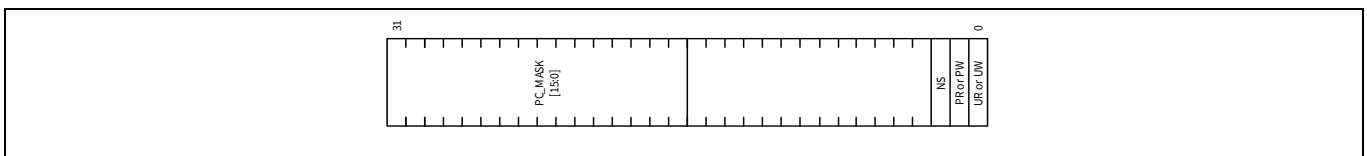

Figure 6-10. Composition of attribute elements
- FWPUs_SL_ATT_[3:0], ERPUx_SL_ATT_[3:0], EWPUs_SL_ATT_[3:0]: These elements set the attribute to access flash memory or eFuse. **Figure 6-10** shows the composition of each attribute setting element.
- PC_MASK: Accesses with protection context (PC) are allowed, when the corresponding bit is set to '1'. XMC7000 has eight PCs. Therefore, MC_MASK[15:8] is invalid.
- FWPUs_MS_ATT_[3:0], ERPUx_MS_ATT_[3:0], EWPUs_MS_ATT_[3:0]: These elements set the attribute to access slave elements. Composition of each attribute setting element is same as **Figure 6-10**.